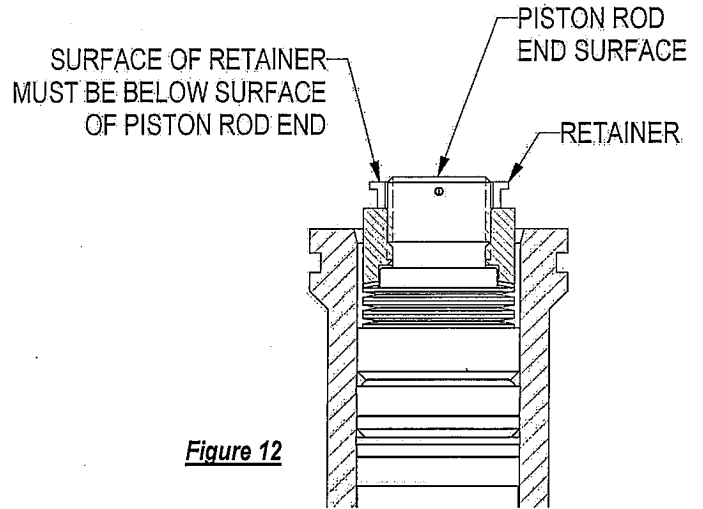

Figure 12
*caution: make sure nut (86789) surface does not protrude beyond end of rod (86788) – shown in figure 12. This can be achieved by using fewer number of belleville springs (16719-13) if necessary.